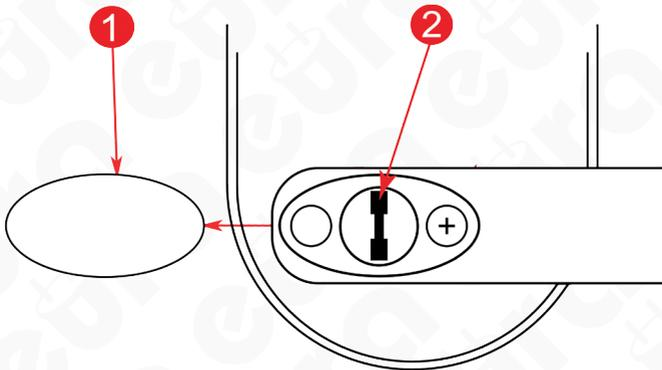

Fig. 7.
- remove the hole plug (Fig. 7, Item 1),
- insert the emergency key in the patent lock (Fig. 7, Item 2),
- by turning the key 90 degrees to the right unlock the door handle set mechanism,